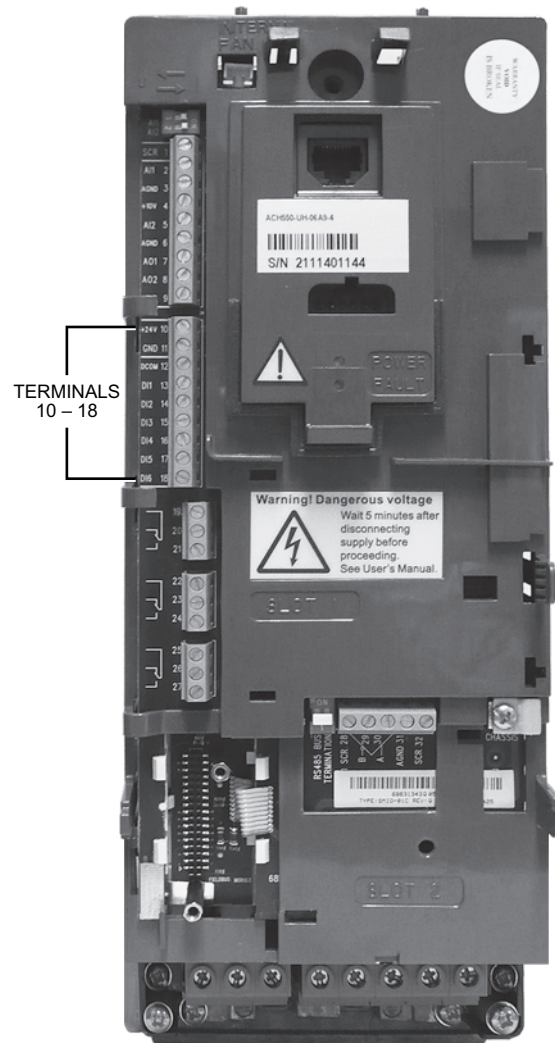

Fig. 56 — Terminal Block Location on ACH550 VFD
3. Disconnect the DI1 input at Terminal 13 (see Fig. 56 for location of DI1).